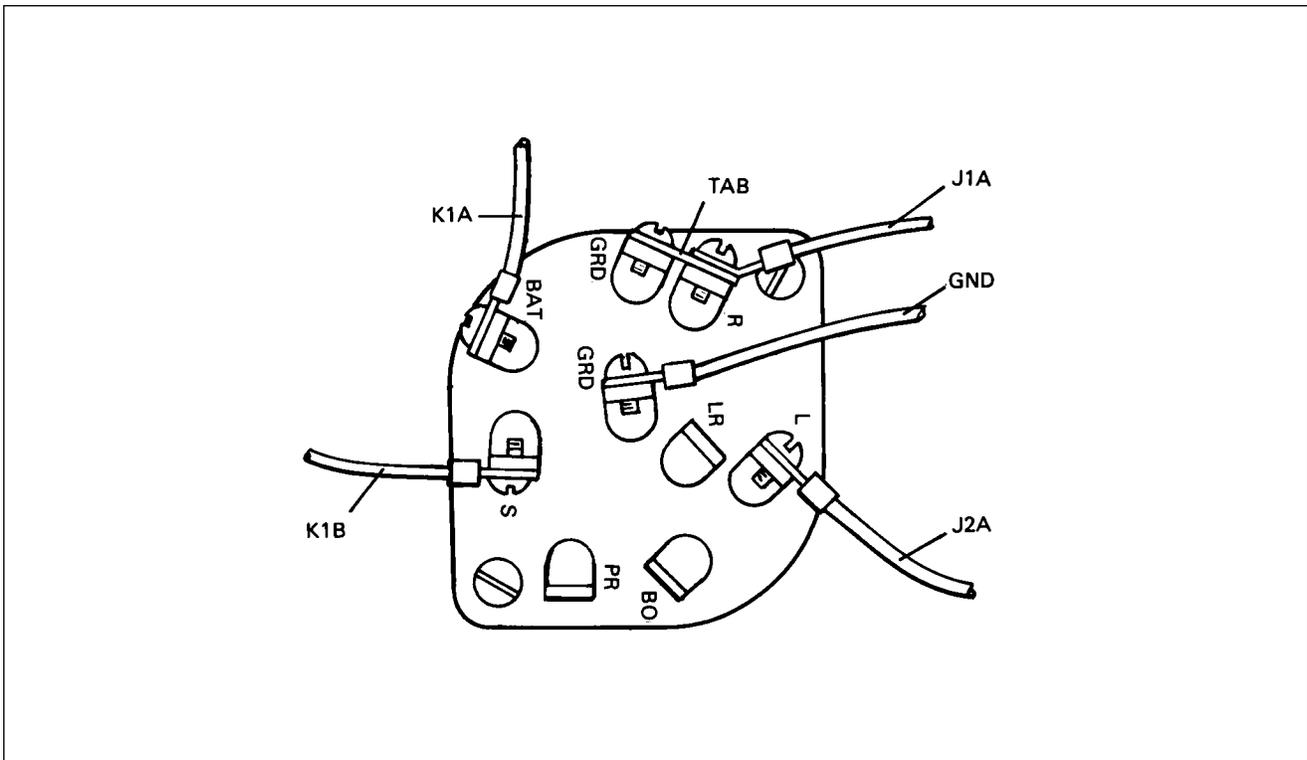

Figure 74-45. Ignition Switch Wire Positions
**INSTALLATION OF IGNITION SWITCH.** (Refer to Figure 74-45.)
1. Attach wires to switch as shown in Figure 74-45.